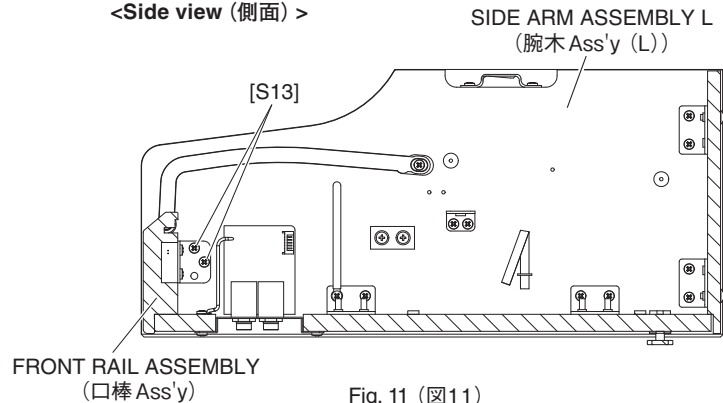

Fig. 11 (図11)
- 17-7 Remove the two (2) screws marked [S13] each from both sides of the assembly. (Fig. 11)
- 17-7 [S13] のネジを左右 2 本ずつ外します。(図 11)
- 18-8 Remove the two (2) screws marked [S13]. (Fig. 11)
- 18-8 [S13]のネジ2本を外します。(図11)